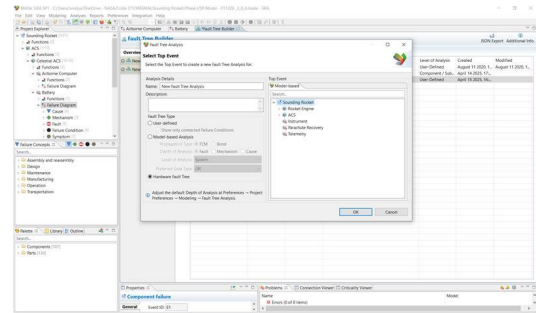

Figure B74: Fault Tree Builder
- 2) Open *Fault Tree Builder* from the “Analyses – Fault Tree” menu (Figure B74) and create an FTA instance by clicking the green plus-sign and entering a *Name* (editable later), *Description* (optional - editable later), *Fault Tree Type*, and *Top Event*.